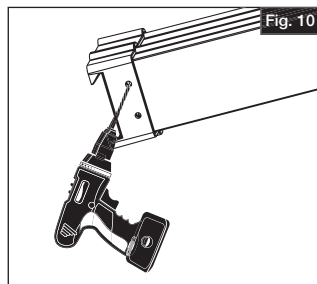

Fig. 10
- a. For bottom rail, pre-drill two holes underneath bracket with a $\frac{5}{32}$ " drill bit (2 per bracket) (Fig. 10).